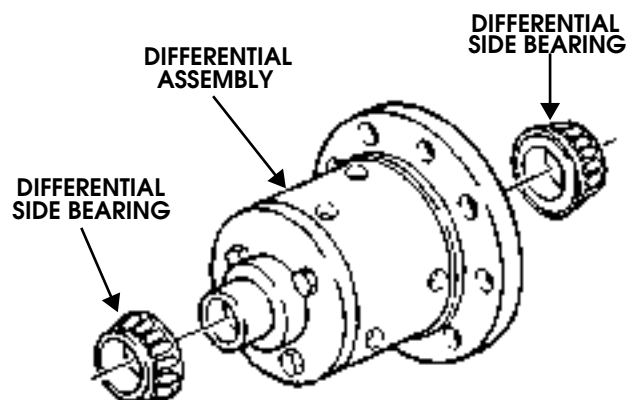

Figure 9-69: Differential Side Bearing Removal
- 21. Remove two differential side bearings from differential assembly (Figure 9-69).